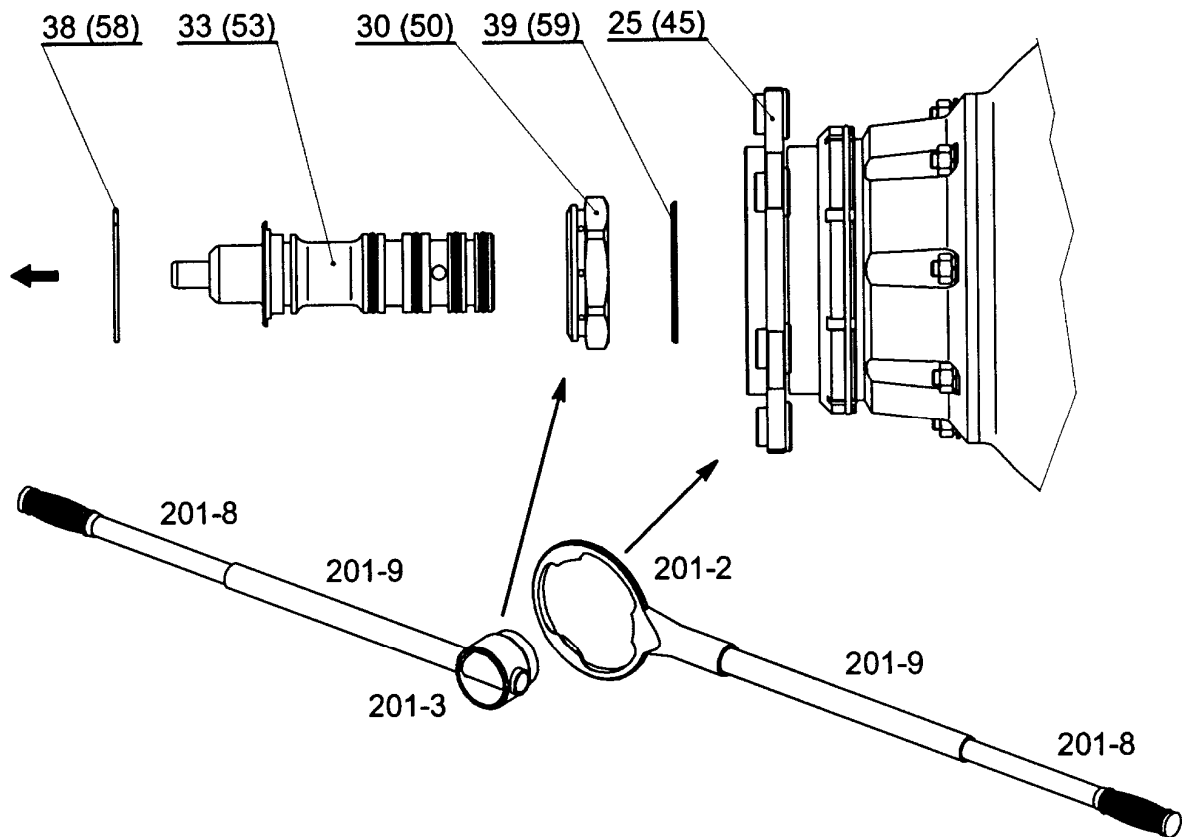

Fig. 204 Pressure oil distributor removing
- (6) Insert the nylon cover (16) into the rear part of the hub together with a sealing ring (19) and tighten it by the nuts (9).
- (7) Put the forward part of the propeller spinner (14) and fasten the bolts (20).
- (8) Put the propeller head and free parts into the shipping containers
- (9) When propeller will be used, place it on the clear table and cover by a paper against dust securing.
B. Removal pressure oil distributor type P 7900.01 (see.fig.204,205).
- (1) From the nut (30) remove the wire fuse (38) and from the crankshaft shift off the bushings (33).
- (2) By means of wrench (201-3), adjustable mounting tube (201-9) and mounting bar (201-8) screw off to the left and screw out the nut (30) and take off the washer (39). When screwing off the nut (30) put on the flange of the rotor (25) wrench (201-2) with adjustable mounting tube (201-9), and mounting bar (201-8) and stop to the spinning of the crankshaft
- (4) Blind the fitting (41) on the distributor casing (32) by rubber coverings.
- (5) Screw off nuts (42) fastening the distributor and remove washers.
- (6) Screw the remover (201-4) into the flange of the rotor (25) by the means of wrench (201-3).
- (7) Set the wrench (201-1) on the bolt of the remover with mounting bar (201-8), turning the remover bolt loose the rotor.
- (8) When removing the rotor keep the flange (25) by means of the wrench (201-2) with the second mounting bar (201-8).
- (9) After the release of the rotor, get off the distributor from the crankshaft of the.
- (10) Distributor and free parts of distributor put into a the shipping containers.
- (11) If the distributor are to be used further, are to be put on the clean table and covered by paper against the dust.
C. Removal pressure oil distributor type LUN 7902 (see.fig.204,205).
- (1) From the nut (50) remove the wire fuse (58) and from the crankshaft shift off the bushings (53).
- (2) By means of wrench (201-3), adjustable mounting tube (201-9) and mounting bar (201-8) screw off to the left and screw out the nut (50) and take off the washer (59). When screwing off the nut (50) put on the flange of the rotor (45) wrench (201-2) with adjustable mounting tube (201-9), and mounting bar (201-8) and stop to the spinning of the crankshaft.